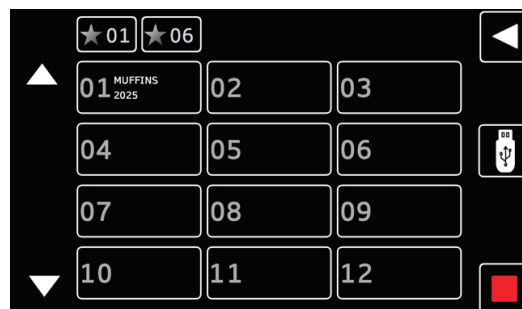

Figure 17-1.
1. Select one of the two “star” buttons to add one of the programmed recipes to a favorite button. (Figure 17-1).